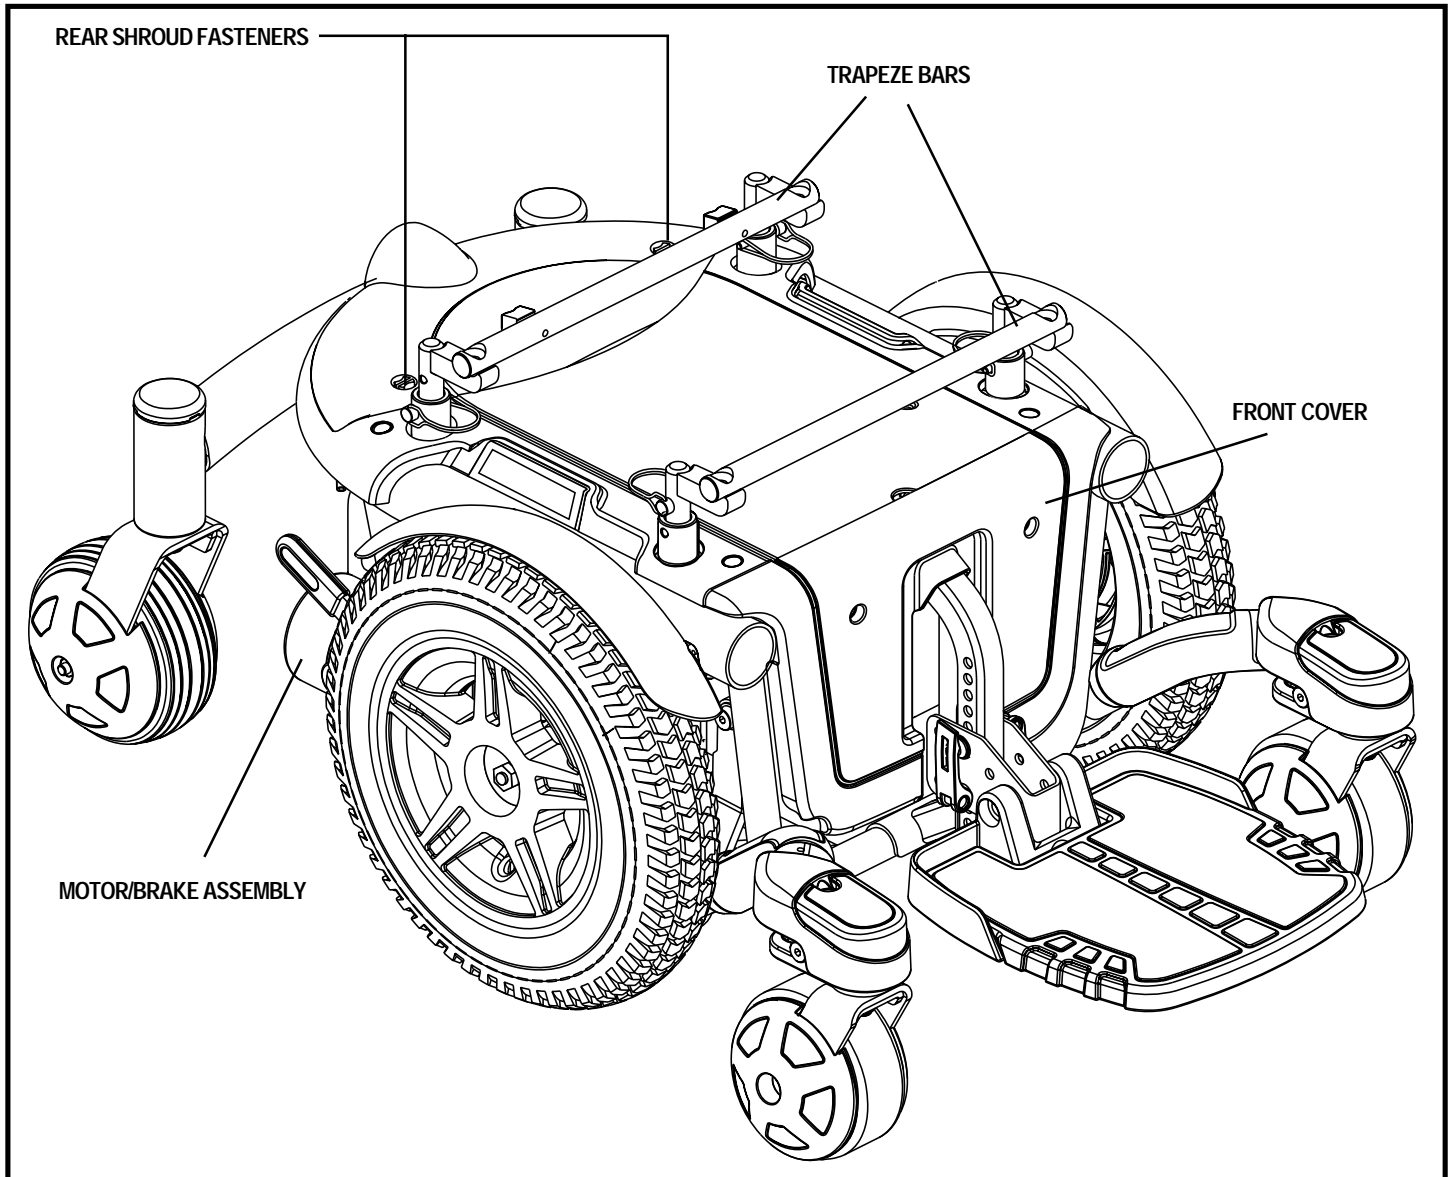

Figure 6. The Quantum 600 Power Base
5. Turn the rear shroud fasteners counterclockwise one-quarter turn to loosen. See figure 6.
2. Loosen the rear shroud fasteners and remove the rear shroud cover. See figure 6.